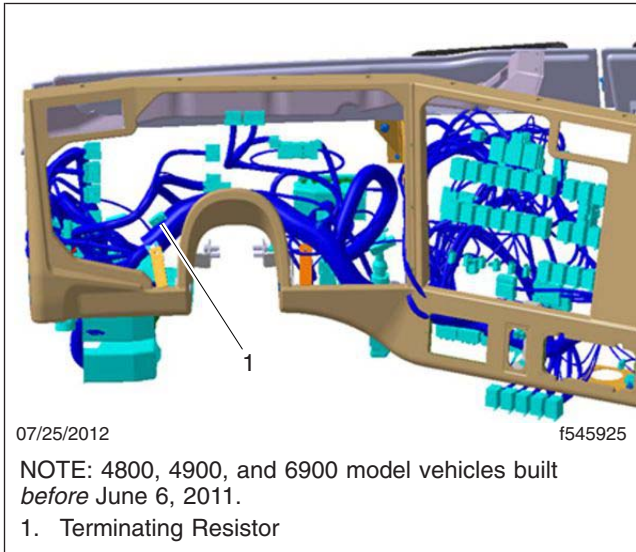

Fig. 4, Terminating Resistor Located Behind the Driver-Side Instrument Panel
- On 4800, 4900, and 6900 models, the terminating resistor is located behind the driver-side instrument panel. See Fig. 4.